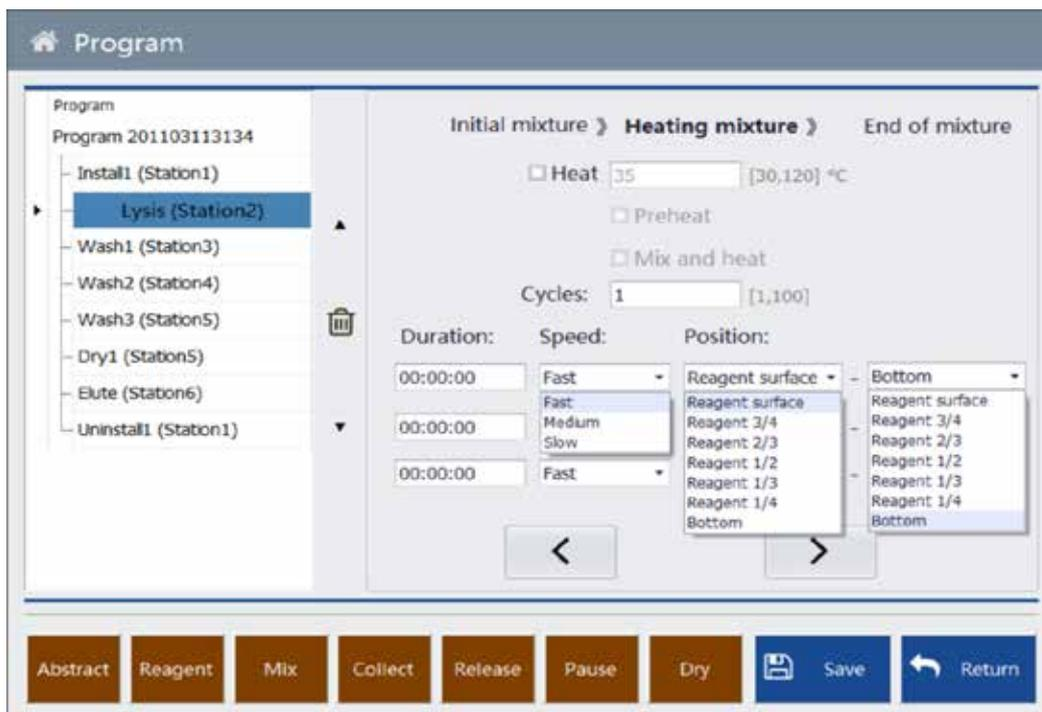

Figure 4-8-2 Heating Mixture
**Heating Mixture:** shows the speed, time and heating of (mix heating), as shown in Figure 4-8-2